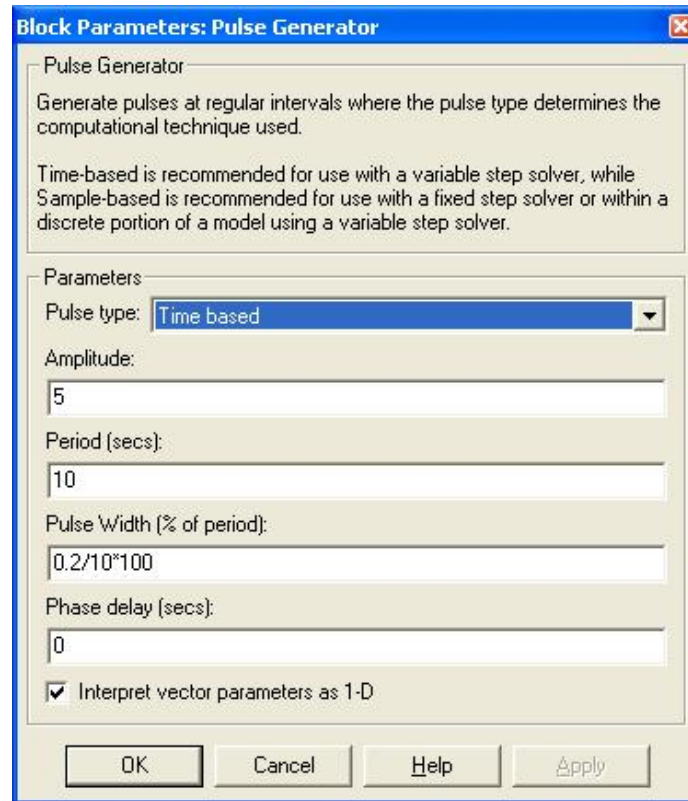

Figure 2.3: Pulse Generator configuration for Lab 2
4. Enter the motor state equation using the values of k_E and τ that were estimated in Lab 1 (make sure that you specify the appropriate output). Double-click on the **Pulse Generator** icon and enter the information as shown in Figure 2.3.